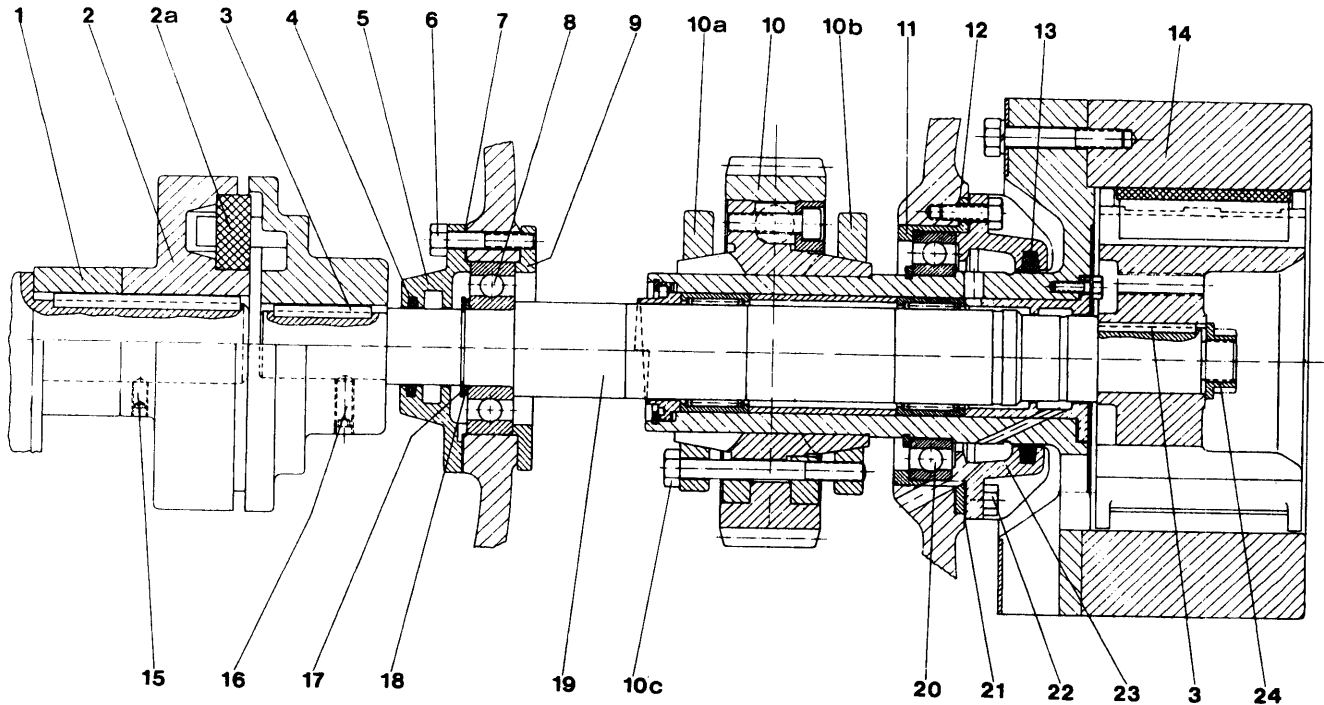

Fig. 15/1
* When worm spindle needs replacement, it is recommended that the entire worm wheel assembly with clamp plates, no. 10, (fig. 15/1) be replaced at the same time, since the latter will no longer be in perfect condition either and can thus cause premature wear to the new worm spindle.